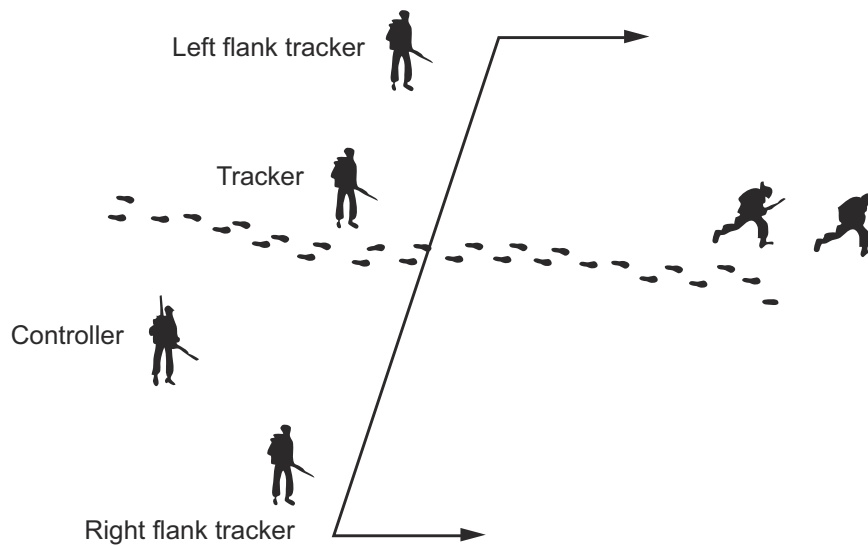

Figure 2-8. Extended Line Formation.
- *Extended line formation.* This formation is used when there is little vegetation to restrict visibility and the spoor is difficult to see. Using three trackers simultaneously speeds up the follow-up and maintains momentum. See figure 2-8.